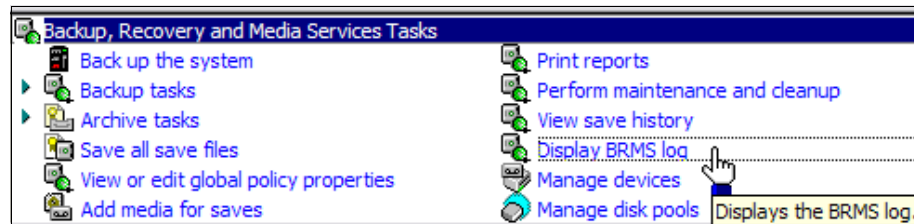

Figure 7-81 BRMS restore - BRMS log using environment tasks
1. Under the Backup, Recovery and Media Services Task bar, open the BRMS log by selecting **Display BRMS Log**, as shown in Figure 7-81.